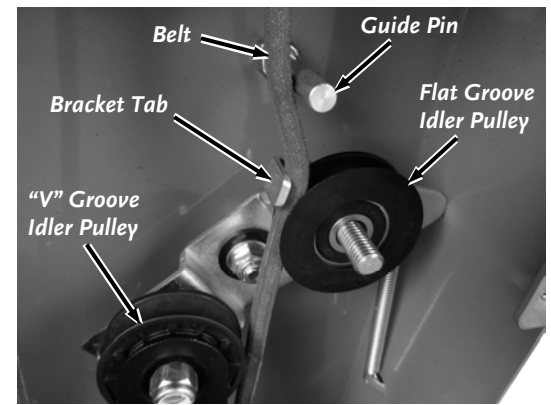

Figure 34
12. Install the small Spacer and flat Idler Pulley (**Figure 34**). Make sure you place the Belt correctly between the Idler Pulley, Bracket Tab, and Guide Pin.